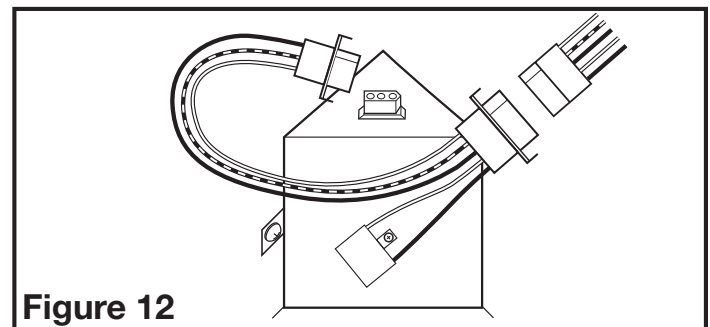

Figure 12
- 3b. **AKLS6 MODELS:** Plug the fan's 5 pin quick connect motor cord into the included harness. Plug the 3 pin quick connect harness cord into the receptacle located on top of the wire compartment. These cords will only fit one way into the receptacles (Figure 12).